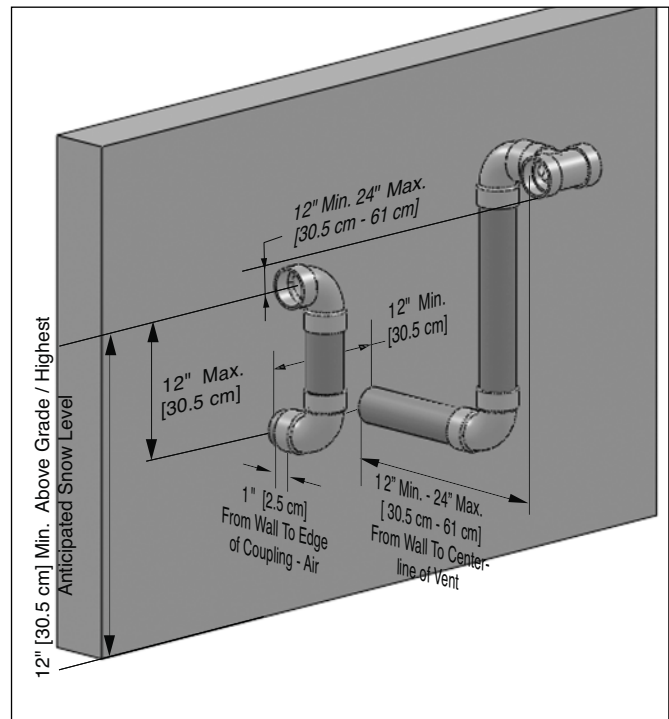

Fig. 11: Direct Vent - Sidewall Snorkel Termination of Vent and Combustion Air Piping with Tee Vent Termination
- Using a tee as shown in Figs. 11 or 14, pages 17 or 18.
- Using a tee as shown in Figs. 11 or 14 pages 17 or 18.